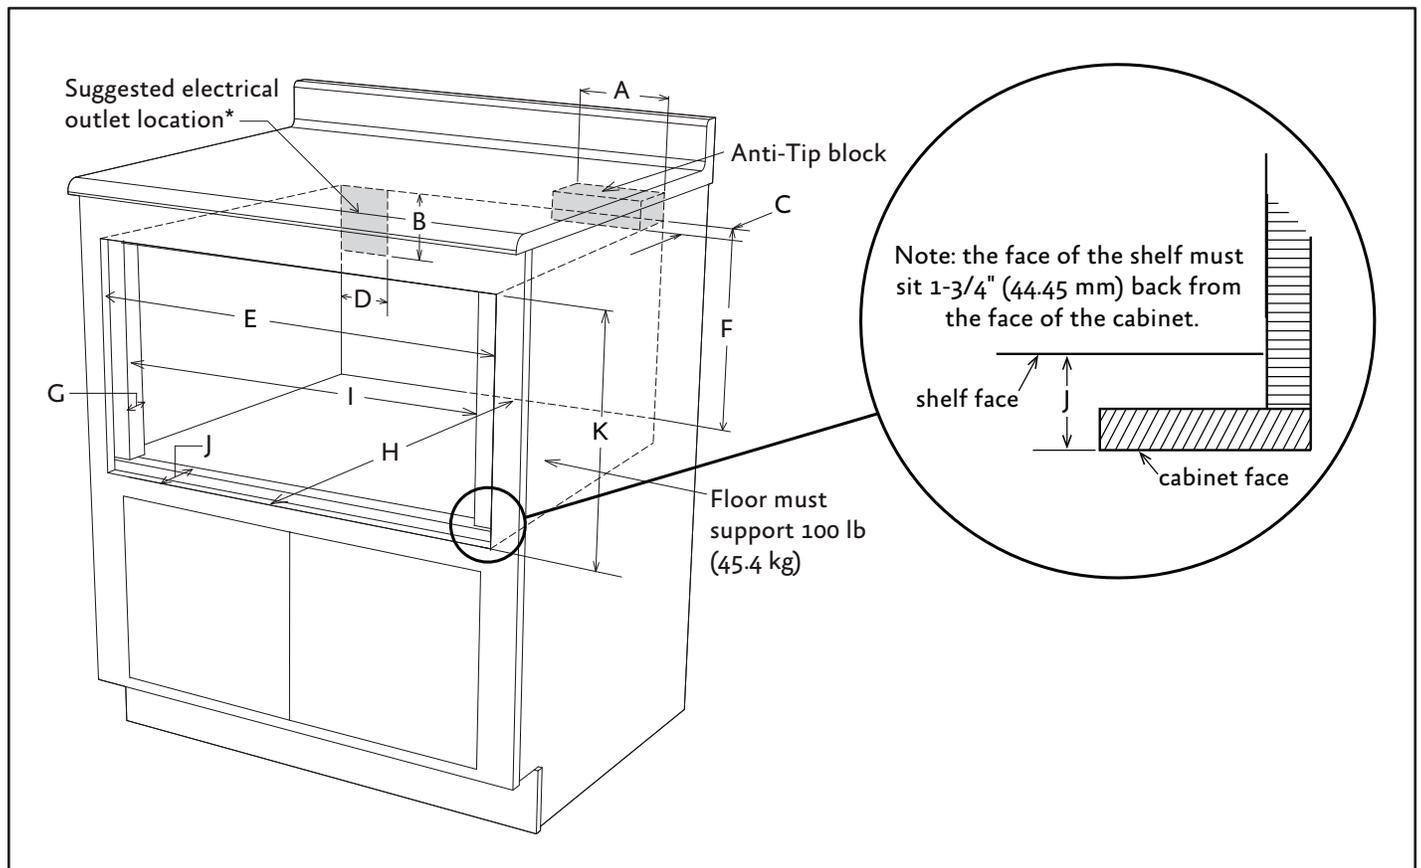

Figure 4: 24" Drawer Microwave Flush Mount Cutout
1. Prepare cabinet opening as shown in Figures 4, 5A and 5B.
Note: Key refers to Figure 4 below.